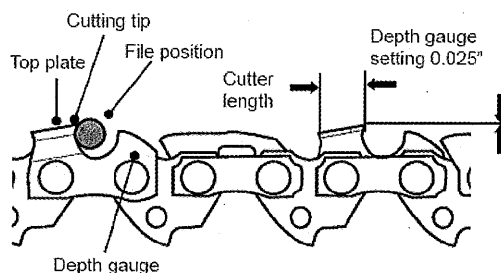

Fig. 49
9. Use a depth gauge measuring instrument to check the height of the depth gauge. Depth gauge measuring jigs are available from most reputable tool merchants (Fig. 49).